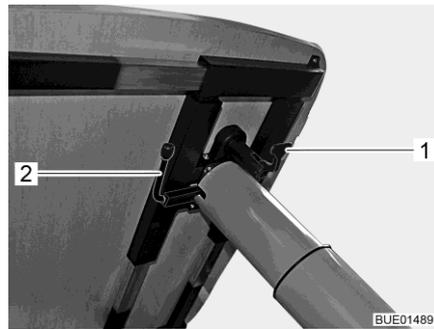

Fig. 132 Adjustment of lift-off table
- Fold lever (Fig. 132,1) downward.
- Swivel the lever (Fig. 132,2) underneath the table top by 180° in a clockwise direction. The lifting mechanism in the table leg is unlocked.
- Swivel the lever (Fig. 132,2) underneath the table top by 180° in a clockwise direction. The table top moves automatically upwards to the limit stop.